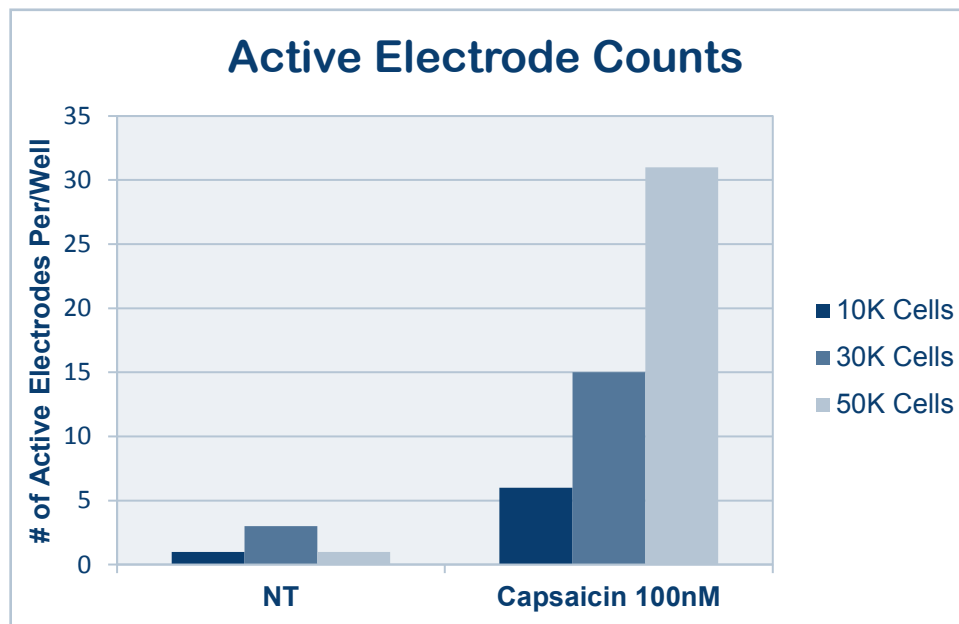

Figure 3: Effect of Capsaicin on Active Electrode Count in DRG Neurons Cultured for 7 Days in an Axion 12-well MEA Plate.
23. Calculate the cell concentration to a 5 μ L volume for each well and resuspend the cells accordingly. For cell densities yielding application specific options, look to Figure 3 in the Data Acquisition section.
Compound addition of capsaicin has been shown to elicit a robust firing response from the DRG neurons on the MEA. For more information on this application see Figure 3 below and look online at www.axion-biosystems.com
Axion AxIS Software is used to record raw voltage data and detect spikes for rate analysis. Product manuals can be downloaded at www.axion-biosystems.com for more comprehensive instructions. To characterize electrical activity of QBM Cell Science DRG neurons, cells at several plating densities were assayed for spike activity before and after addition of capsaicin, an agonist of the heat sensitive TRPV1 ion channel. Fig 3 demonstrates that capsaicin causes a robust density-dependent increase in spike activity.